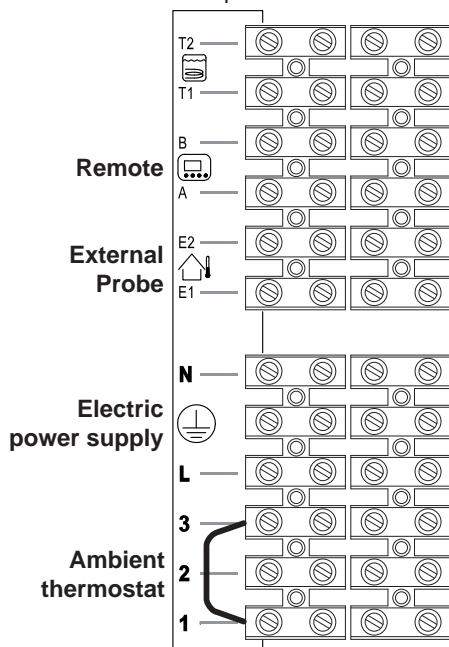

Fig. 6.25
Use the clamps indicated in Fig. 6.25 to connect the external probe.
Use the clamps indicated in Fig. 6.25 to connect the remote.
**Do not remove the electric jumper connected on the ambient thermostat terminal block between "1 and 3" Fig. 6.25.**